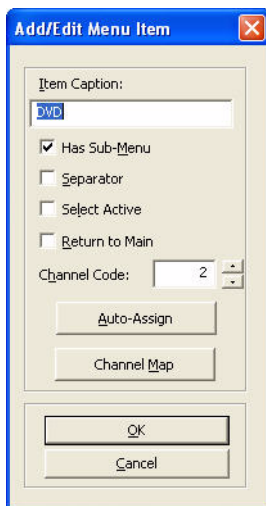

FIG. 8 Add/Edit Menu Item dialog (Text)
With *Menu Type* set to **Text** in the Edit Keypad Menu dialog (FIG. 7), double-click on either a Main Menu item or a Sub-Menu item in the Fixed-Menu Configuration dialog to access the Add/Edit Menu Item dialog (FIG. 8).
1. In the *Fixed Menu Edit* dialog, double-click **Add Menu Item** in the *Main Menu* field. This invokes the the *Add/Edit Menu Item* dialog (FIG. 8).